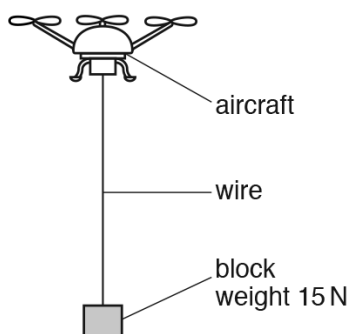

Fig. 2.1
- (b) A block of weight 15N hangs by a wire from a remotely controlled aircraft, as shown in Fig. 2.1.